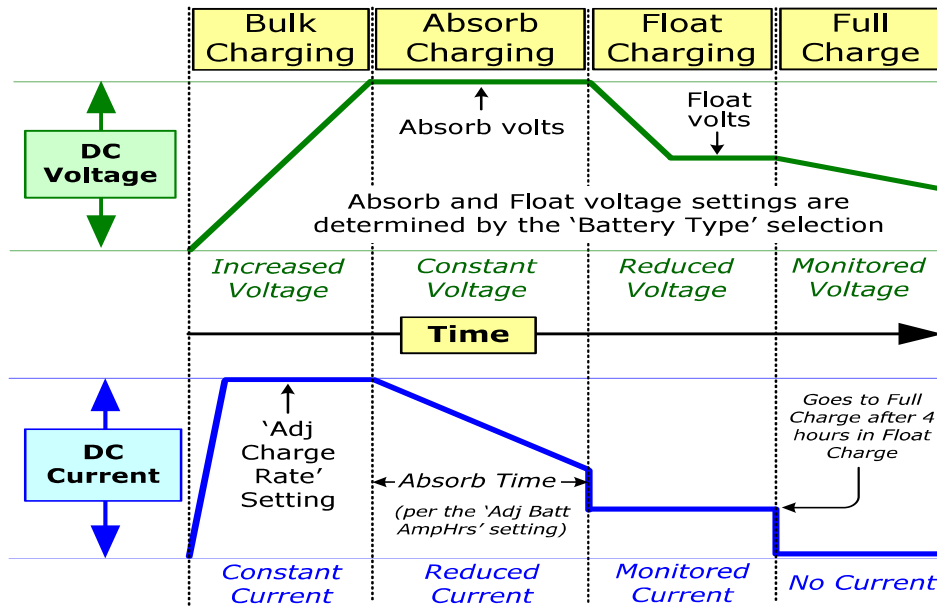

Figure 3-1, Automatic 4-Stage Charging Graph
The multi-stage charger can use up to five different charging stages to help monitor and keep the batteries healthy. The five stages include an automatic 4-stage charging process (Bulk, Absorb, Float, and Full Charge), and a manual Equalization (EQ) charge stage. The automatic 4-stage charge process provides complete recharging and monitoring of the batteries without damage due to overcharging (see Figure 3-1). The Equalization stage (requires the ME-RC50 remote) is used to stir up stratified electrolyte and reverse any battery plate sulfation that might have occurred.